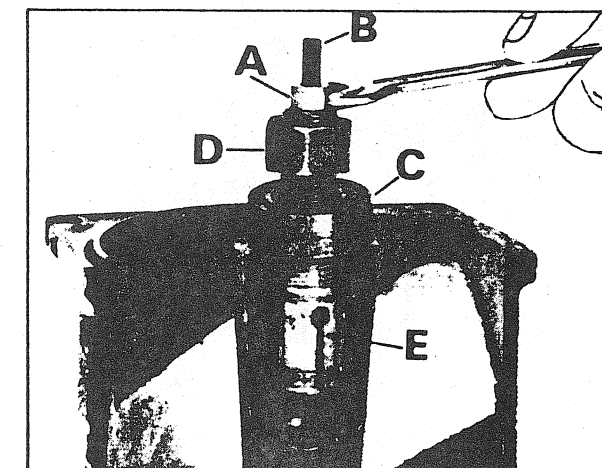

FIGURE 11
- Place the bowl between two (2) pieces of wood in a bench vice.
- Release the small nut (A) on the bolt.
- Insert the tool into the turbine bowl with the tapered bolt head (B) down.
- Tighten the small nut (A) until the tapered bolt head tightens against the ridges of the tool sleeve and forces the ridges (E) over the glacier bowl (fig. 11).